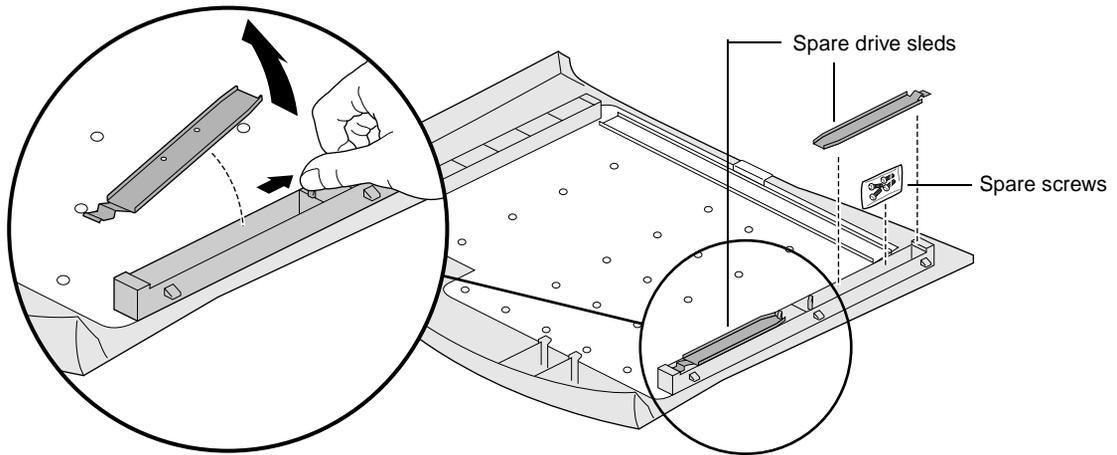

Figure 4-2 Removing the Sleds from the Side Panel
- If you are not replacing a drive, remove two sleds from the side panel, as shown in Figure 4-2. Also remove the spare screws from the lower right edge of the side panel.
6. If you are not reinstalling the drive, remove the sleds and store them inside the side cover of the system (see Figure 4-2) or if you are installing another drive, attach the sleds to the new drive (see “Installing a Removable Media Drive” on page 33).
8. Remove four screws from the bag of screws located inside the side panel. (Refer to Figure 4-2.)